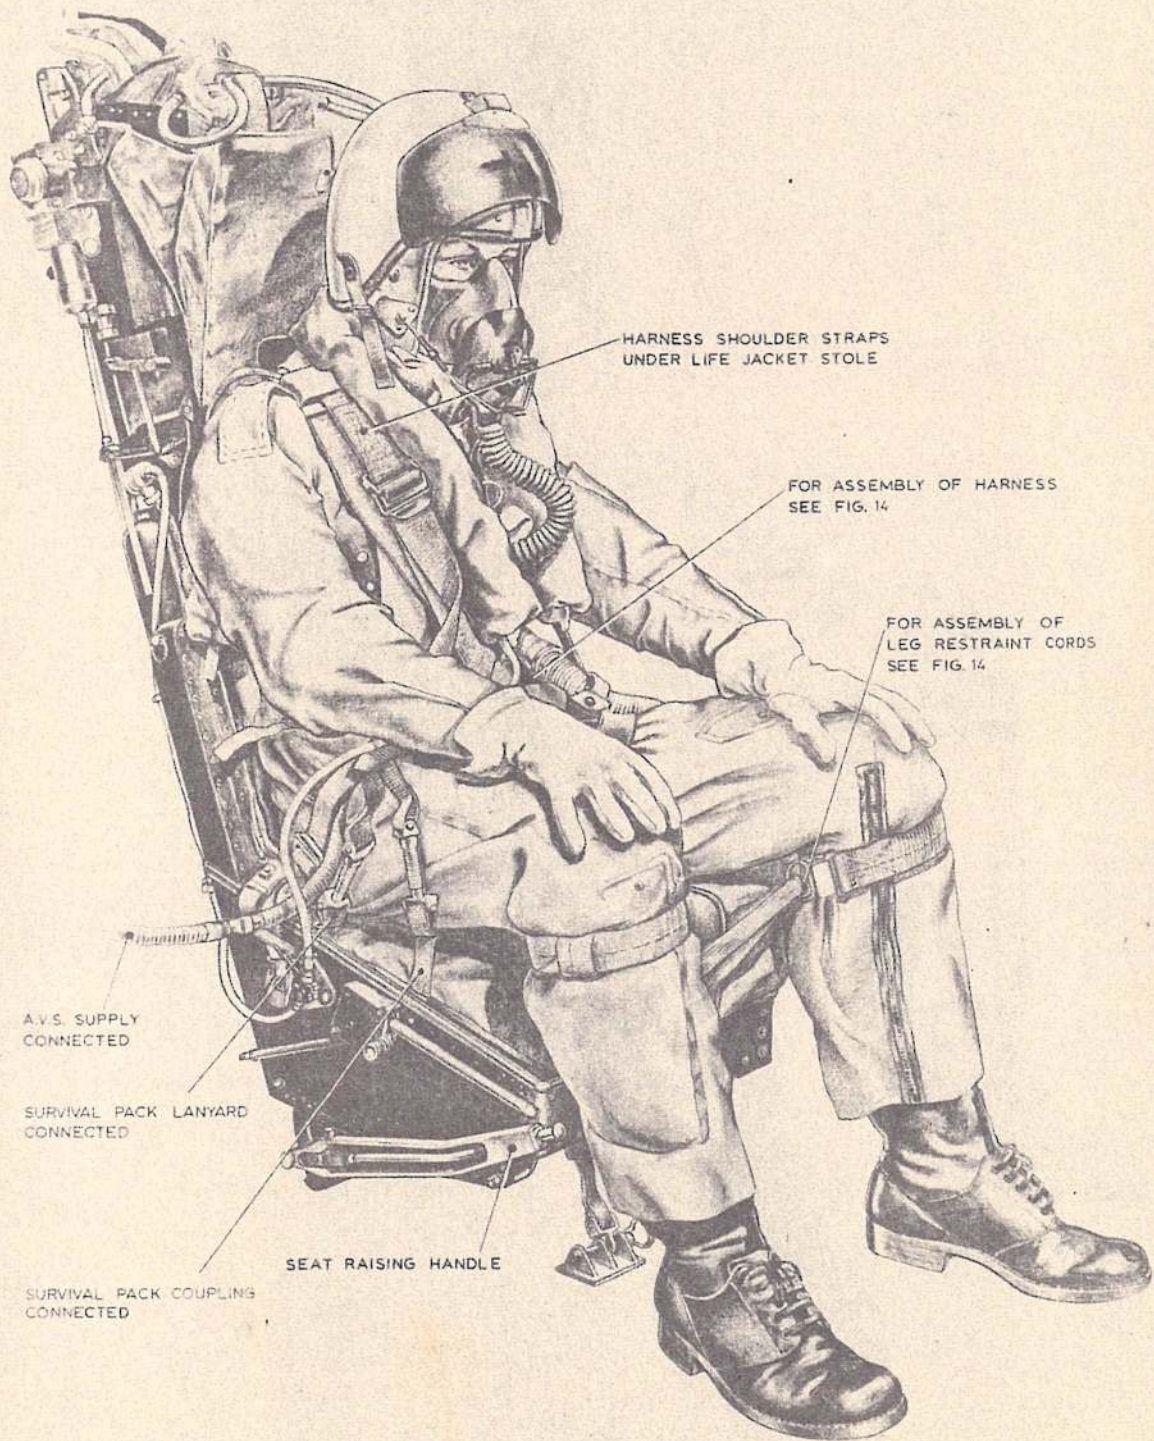

Fig. 21. The pupil's and instructor's Mk. 3CT seats occupied (1)
- (21) Connect the emergency oxygen upper tube assembly (right side) to the oxygen mask tube.
- (22) Connect the Mic/Tel lead, and the A.V.S. supply pipe as required (fig. 21).
- (23) Reach upwards and check that the main firing handle is within reach; DO NOT PULL.
- (24) Fit the oxygen mask and conduct pre-flight oxygen checks (see Pilot's Notes).
- (25) With assistance from a ground crew member, as appropriate, remove and stow the main and alternative firing handle pins; this operation is delayed until immediately before flight with all crew members fully strapped in.
- (26) Swing the instructor's seat forward and lock in the flight position.
- (27) Instructor to strap in similarly as described in operations (1) to (23).